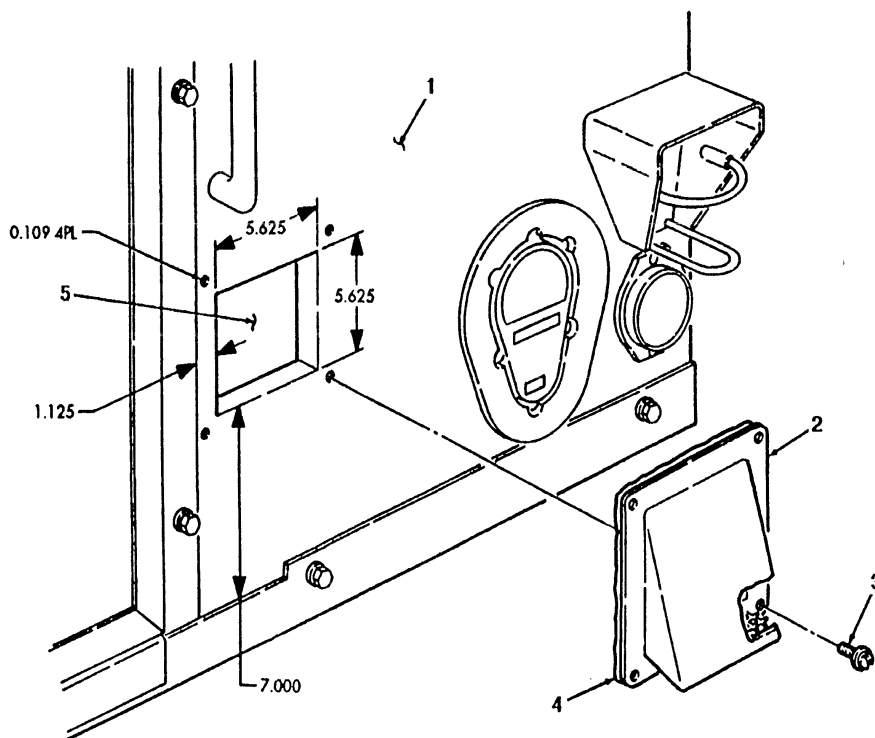

FIGURE 3-34
- (6) Using NSN 2540-01-164-1886 ventilator (2) as a template, locate, mark, and drill four 0.109" diameter holes 0.750" deep in right rear enclosure (1). (see figure 3-34)
- (7) Locate and mark area (5) to be cut out in right rear enclosure (1).